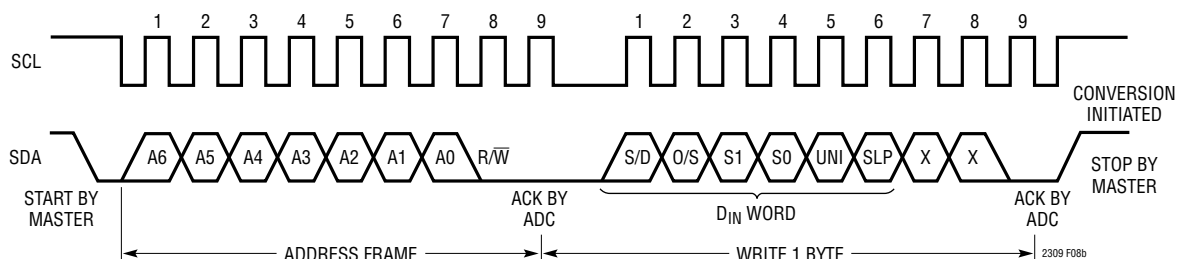

Figure 8b. Timing Diagram for Writing to the LTC2309
When the LTC2309 is addressed for a write operation, it acknowledges by pulling SDA LOW during the LOW period before the 9th cycle and acts as a receiver. The master/transmitter can then send 1 byte to program the device. The input byte consists of the 6-bit  $D_{IN}$  word followed by two bits that are ignored by the ADC and are considered don't cares (X) (see Figure 8b). The input bits are latched on the rising edge of SCL during the write operation.